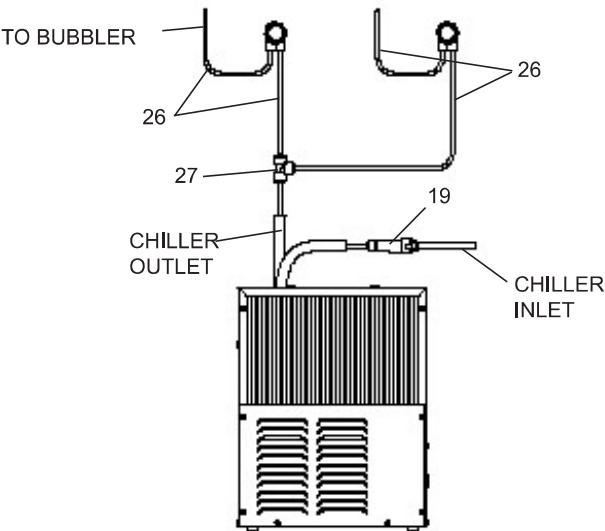

Figure 3 - ERPB Tube Routing
3. **ERPB Models:** Make connection between remote chiller and building supply line. Inlet port is marked on the chiller (1/4" O.D. copper tube). Bend the copper tube (provided) at an appropriate length from chiller to opening in frame. Install the in-line strainer (provided with chiller) by pushing it until it reaches a positive stop, approximately 3/4" (19mm) on the marked chiller inlet port. Connect building supply line to strainer. (See Figure 3)